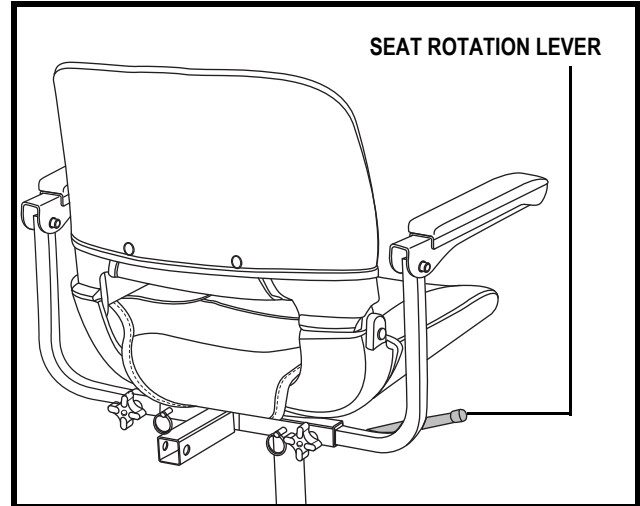

Figure 19. Seat Position Adjustments
1. Pull upward on the seat rotation lever to disengage the seat. **See figure 19.**